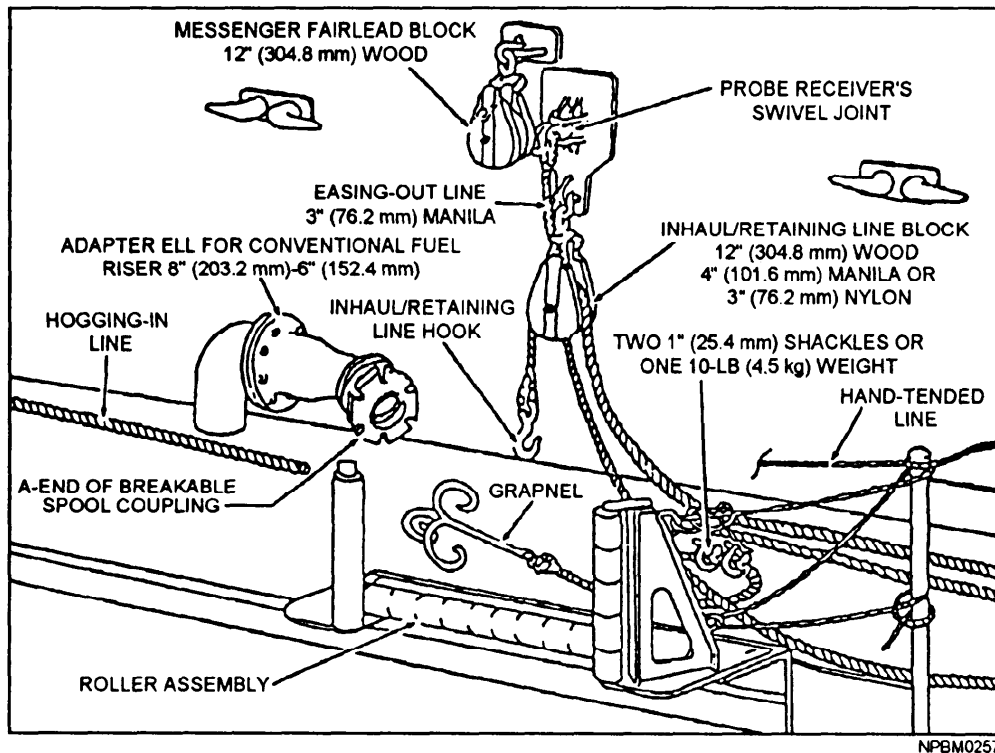

Figure 10-25.—Receiving station ready to receive astern fueling rig.
- Shackle a 12-inch wooden block to the fairlead padeye, using an upset safety shackle. This will be used as your messenger fairlead block (fig. 10-25). Fairlead the messenger to power if available.